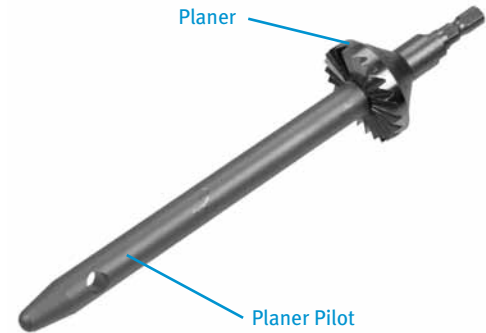

Fig. 6
- Thread the Segmental Planer Pilot (130mm long) for the stem diameter selected onto the Femoral/Tibial Planer (Fig. 6).